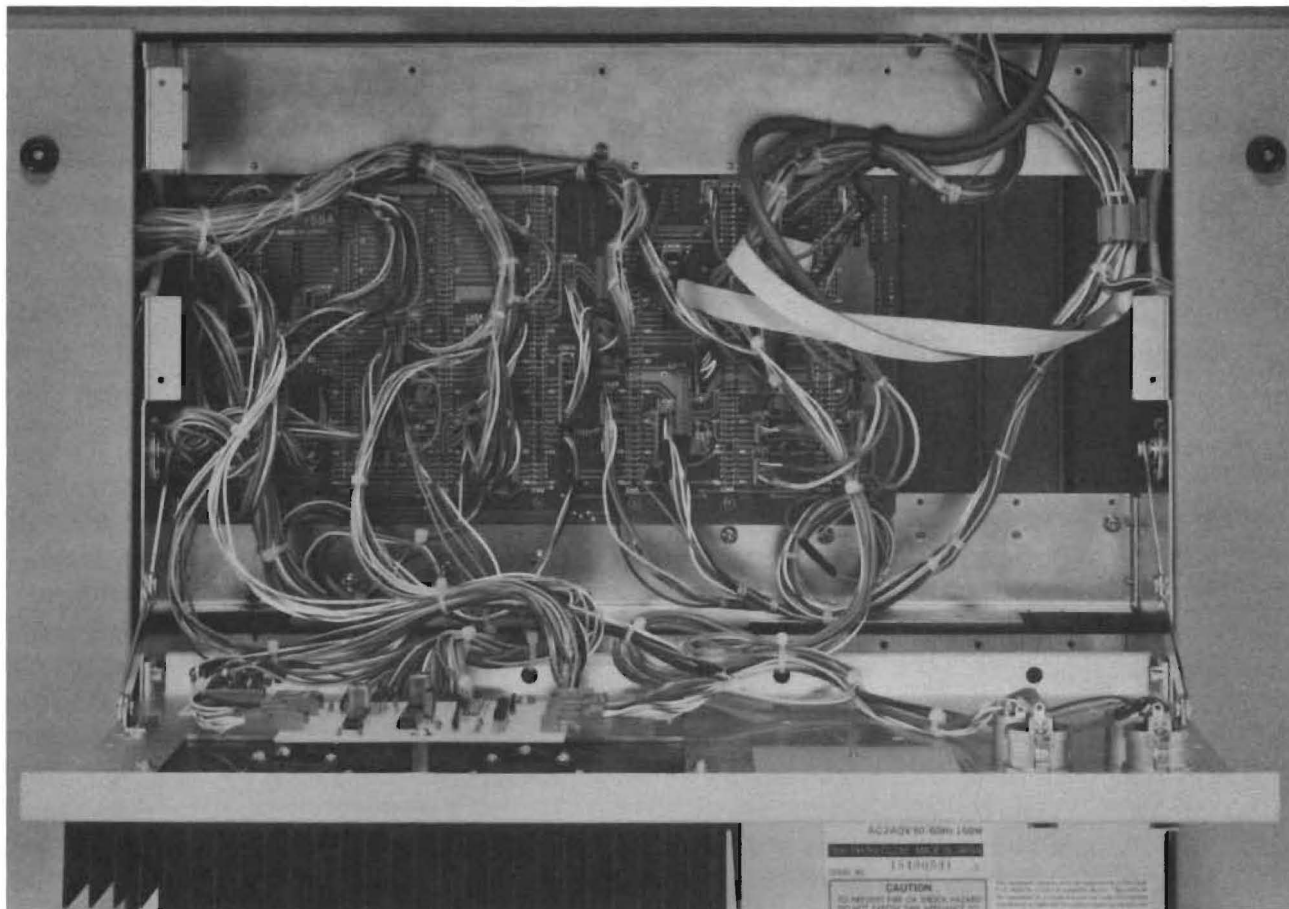

FIGURE 2-5. CHECK THE VARIOUS CONNECTORS AND COMPONENTS ON THE UPPER CARD CAGE MOTHER BOARD, AND THE INTERFACE PANEL BEHIND IT.
- B. Check the various connectors and components to be sure they are firmly seated: (Refer to Figure 2-5.)